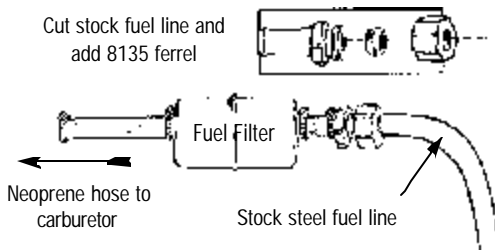

Figure 3 - Fuel Line Kit #8135 installed on stock steel fuel line
2. The stock steel fuel line must be converted to fuel resistant rubber hose. The stock steel line will not connect to the Performer Series Carburetor. Use Edelbrock Universal Fuel Line Kit #8135. This kit contains a filter, neoprene hose and fittings to adapt 5/16" and 3/8" stock fuel lines (See Fig. 3).